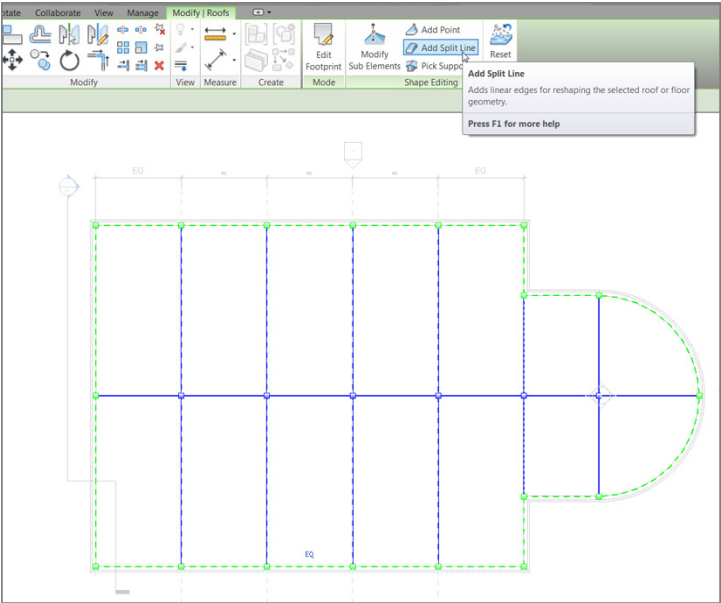

FIGURE 7.11: The ridges are in. All that is left is to create some points and start tapering the roof.
17. Click Add Split Line, as shown in Figure 7.11. Make sure to clear the Chain option.
18. Draw four ridges at the intersections of the reference planes (see Figure 7.11).